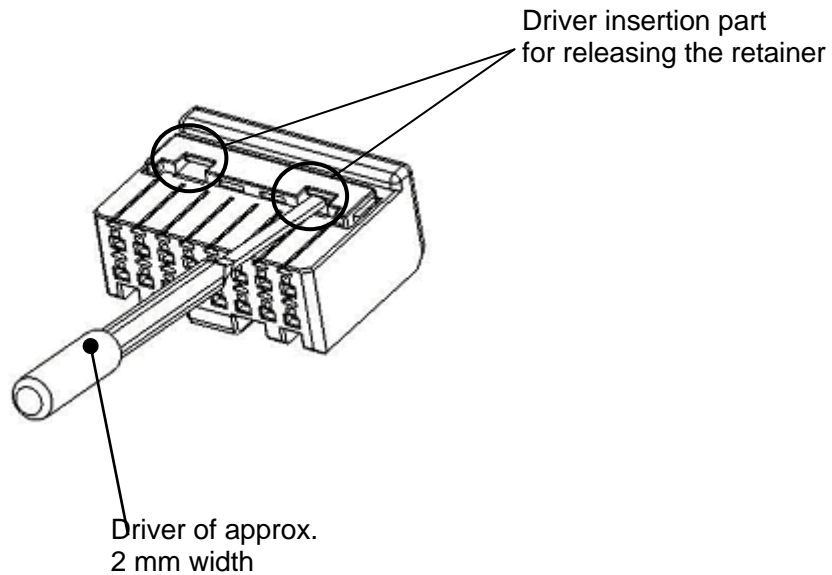

Fig.17
- ① Use a flat approx. 2 mm-wide precision driver when releasing the retainer from the locking position to the pre-locking position. (Fig.17)